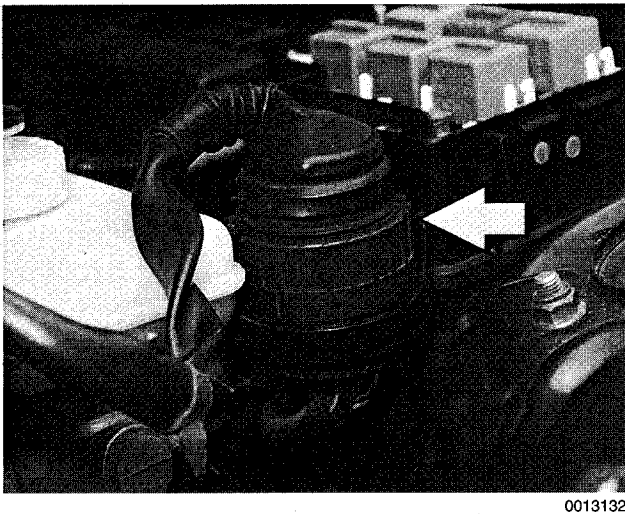

Fig. 13. Main engine harness connectors in rear of engine compartment (**arrow**).
17. Working below intake manifold, disconnect harness connectors. Cut wire ties holding engine harness to bulkhead and disconnect main engine harness connector at rear of engine compartment. See Fig. 13.